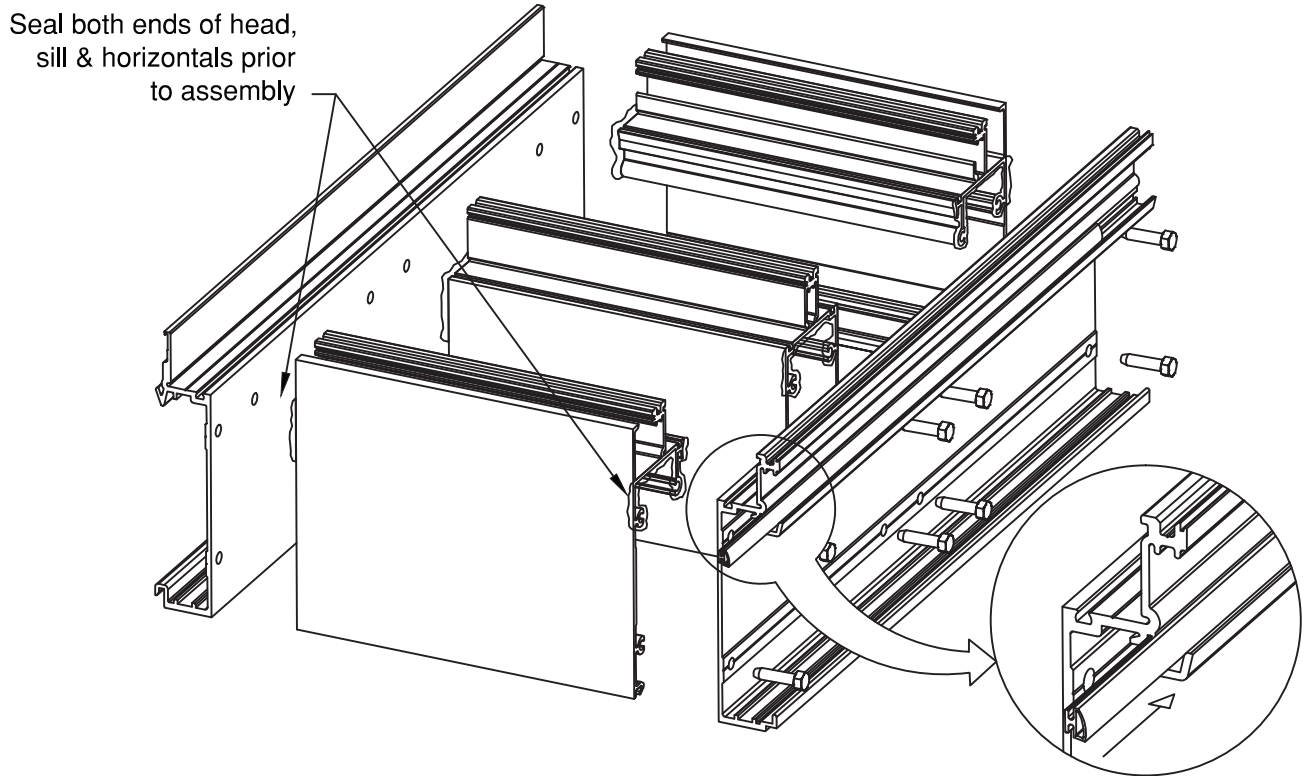

FIGURE 9
- 2.2 Apply sealant to ends of horizontals prior to attaching to verticals. Attach to verticals with FS-8 #14 x 1" Hex Head screw. Three screws are required at each head and sill; four are required at intermediate horizontals. **SEE FIGURE 9.** Tool excess sealant at horizontal-to-vertical joints.
- 2.3 Install GP-134 bulb gasket into race at center of captured and SSG mullions. Crimp ends of mullion to lock into position. **SEE FIGURE 9.** If steel reinforcing is required, install now. **SEE FIGURE 47, page 34**